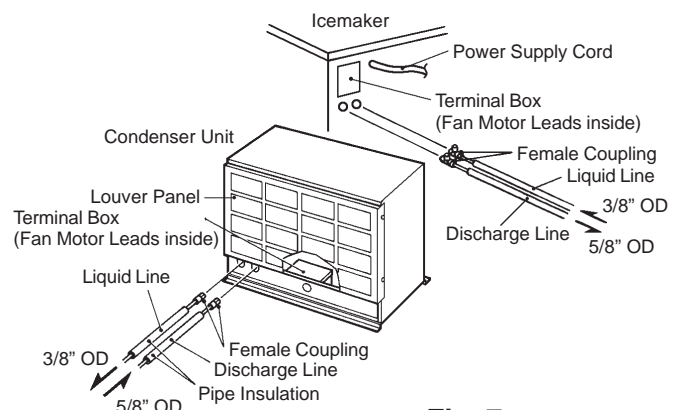

Fig. 7
- 3) Install enough length of two copper tubings provided with Aeroquip couplings between the icemaker and the Condenser Unit. The two copper tubings should be insulated separately. See Fig. 7.